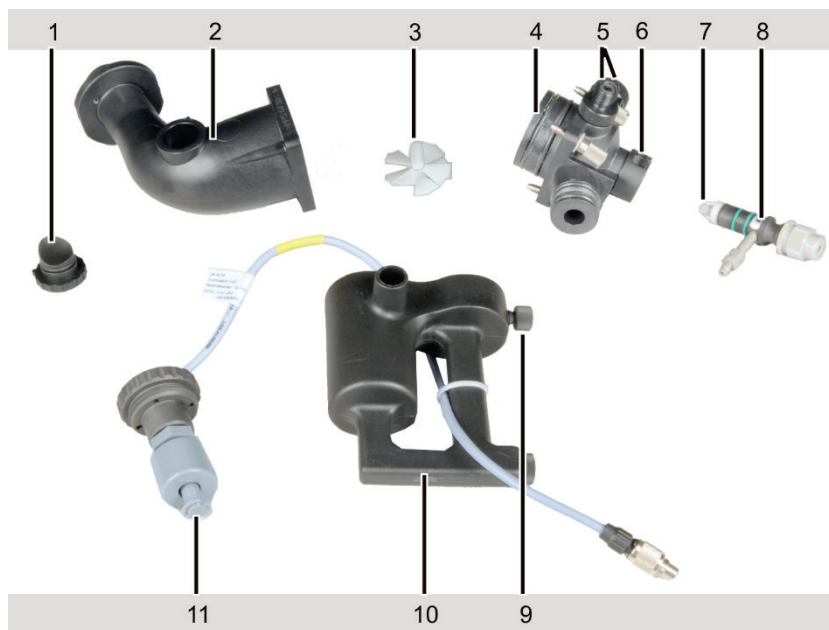

Fig. 60 Remove and disassemble the burner-nebulizer system
6. Loosen the knurled head screw of the siphon (9 in Fig. 60 p. 89) and pull the siphon down.
8. Unscrew the insert of the siphon sensor, remove the sensor from the siphon (11 in Fig. 60).
10. Withdraw the safety plug (1 in Fig. 60) from the mixing chamber.
12. Remove the impeller (3 in Fig. 60) from the chamber tube.
2. Turn the impact bead (7 in Fig. 60 p. 89) slightly and pull it off the nebulizer. Should the impact bead stuck; put the nebulizer again in the ultrasonic bath.
4. Screw the siphon sensor (11 in Fig. 60 p. 89) in the siphon. Stick the siphon on the chamber head, align the sides so that they are flush and fasten with knurled head screw (9 in Fig. 60).
5. Attach the safety plug (1 in Fig. 60) on the chamber tube.
6. Screw the connections for fuel gas and additional oxidant (5 in Fig. 60) with the sealing rings into the mixing chamber head.
7. Stick the nebulizer (8 in Fig. 60) into the chamber head and fasten using the locking ring. **Note:** If the nebulizer cannot be stuck easily into the chamber head, slightly grease the sealing rings with the lubricant supplied (Apiezon grease).